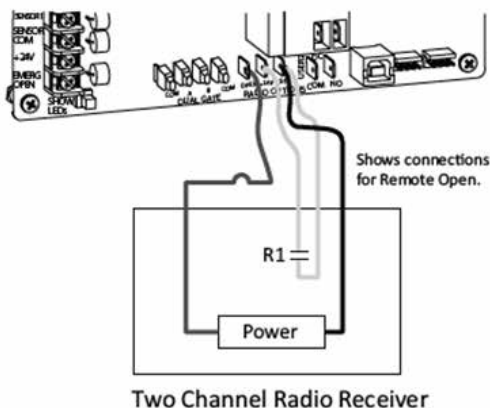

Figure 19. Radio Receiver Connections
1. **Route the wires to the area marked RADIO OPTIONS. Only three wire connections are needed because the common wire and one radio output wire are connected together. Figure 19 shows additional wires from a two-channel receiver.**